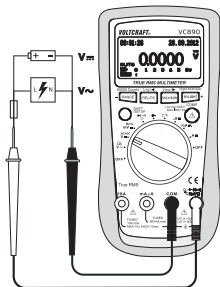

Fig. 2
2. Insert the red test lead into the  $\text{^{\circ}CHzV}\Omega$  measuring socket (7), the black test lead into the COM measuring socket (8) (Fig. 2).